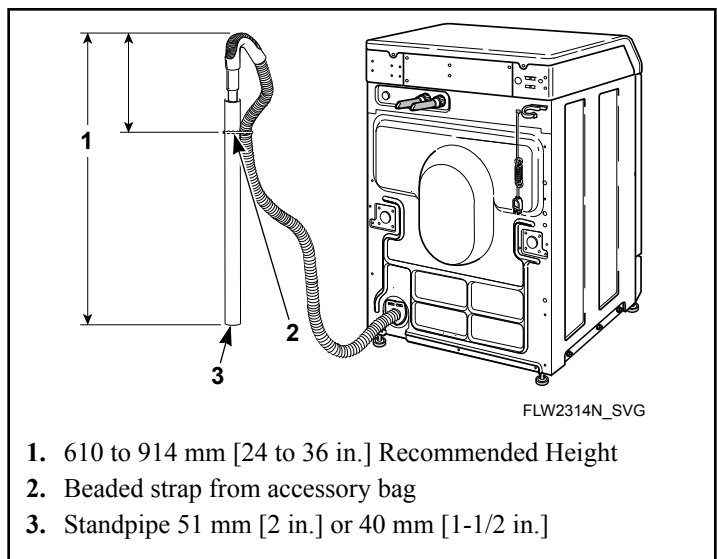

Figure 9
- Remove the beaded tie-down strap from accessories bag and place around standpipe and drain hose and tighten strap to hold hose to standpipe. Refer to *Figure 9*. This will prevent the drain hose from dislodging from drain receptacle during use.